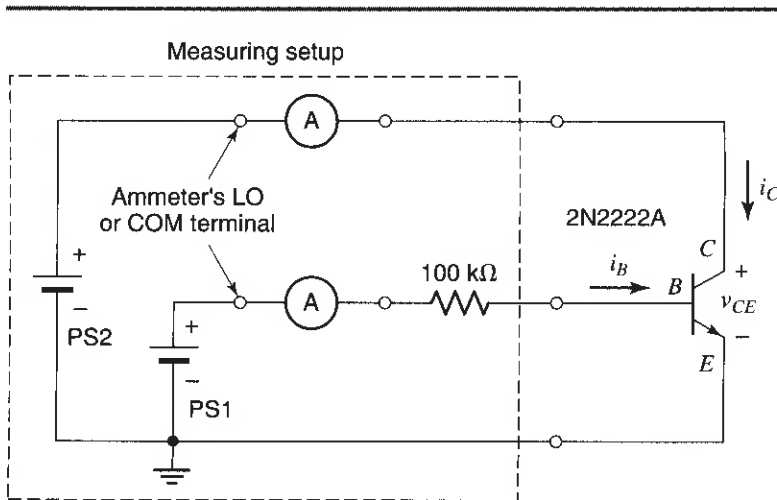

Fig. 3
1. You will measure the transistor characteristics, using the setup in Fig. 3. The part labeled "Measuring setup" is a piece of instrumentation designed for making transistor measurements. The voltage of PS1 is used for varying the base current, i_B . The resistor is used for limiting this current (connecting PS1 directly across the base emitter would be risky since the base current depends exponentially on the base-emitter